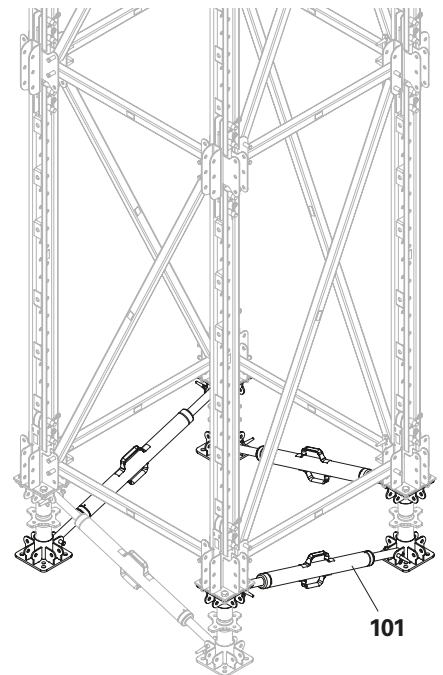

Fig. A1.23
7. Repeat the procedure for the remaining Heavy-Duty Spindles SLS 100/180 (**101**) and brace the tower. (Fig. A1.23)